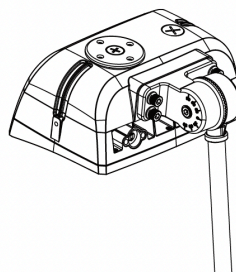

Fig 1.3
4. Loosen the bolt and adjust the Knuckle Mount angle as desired, then tighten the bolt to lock into place (Fig.1.3).